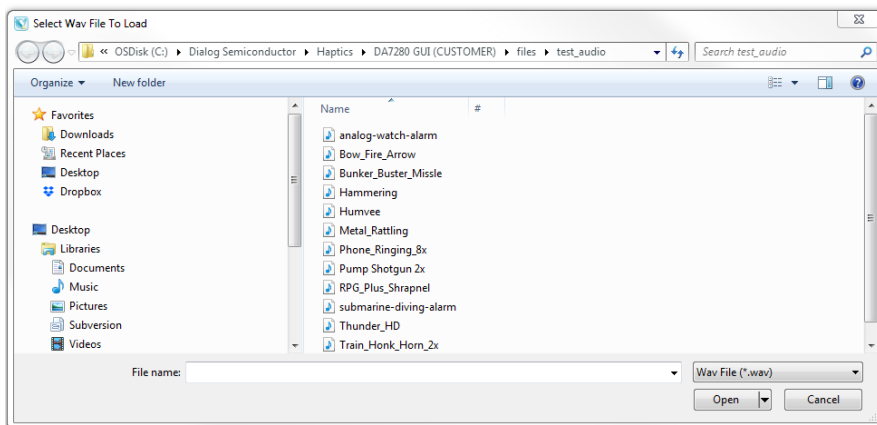

Figure 57. Included sound effect files
- **Load File**: navigates you to the `test_audio` folder bundled with the GUI. A number `.wav` files of sound effects are included for demonstration purposes (Figure 57).